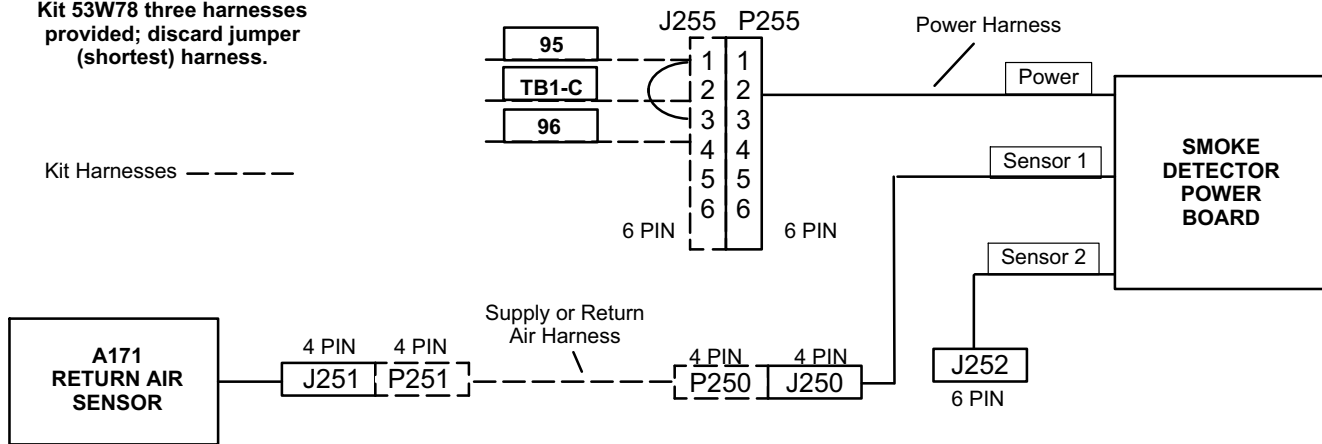
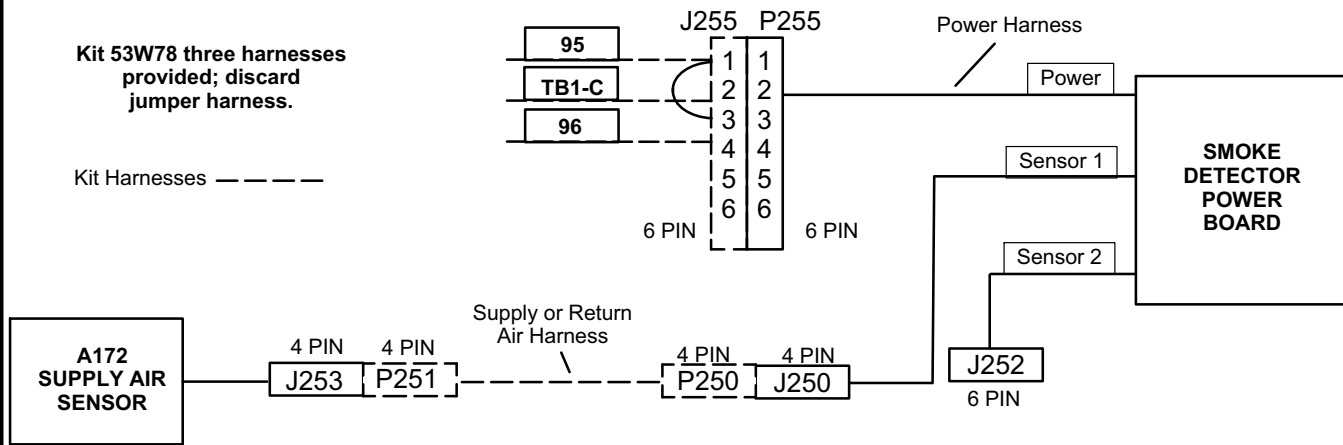
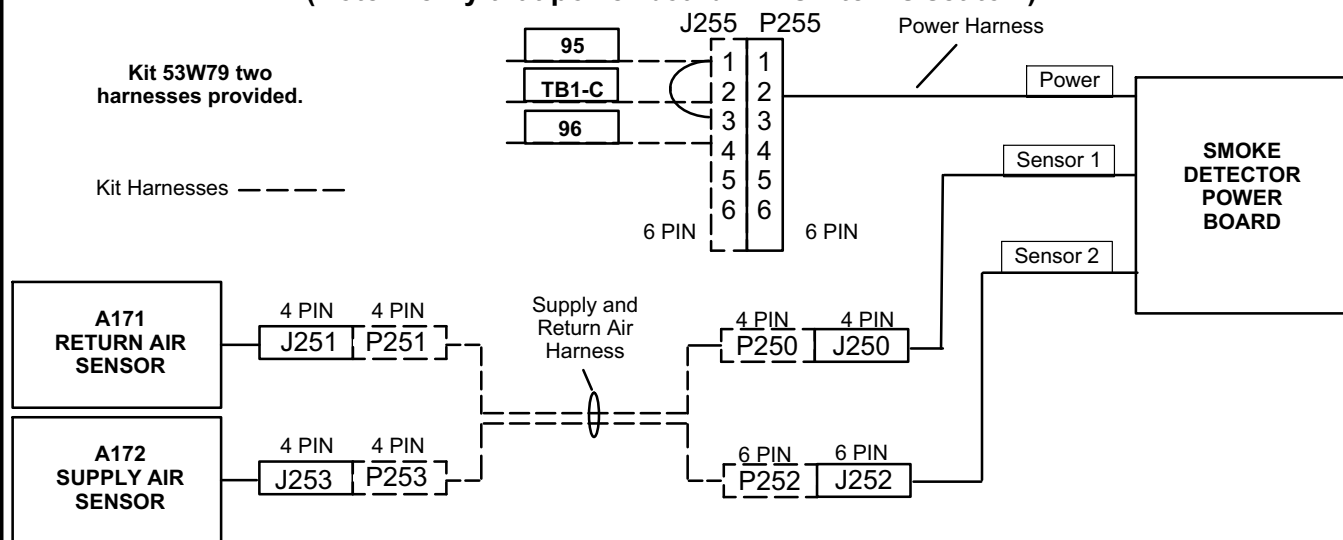
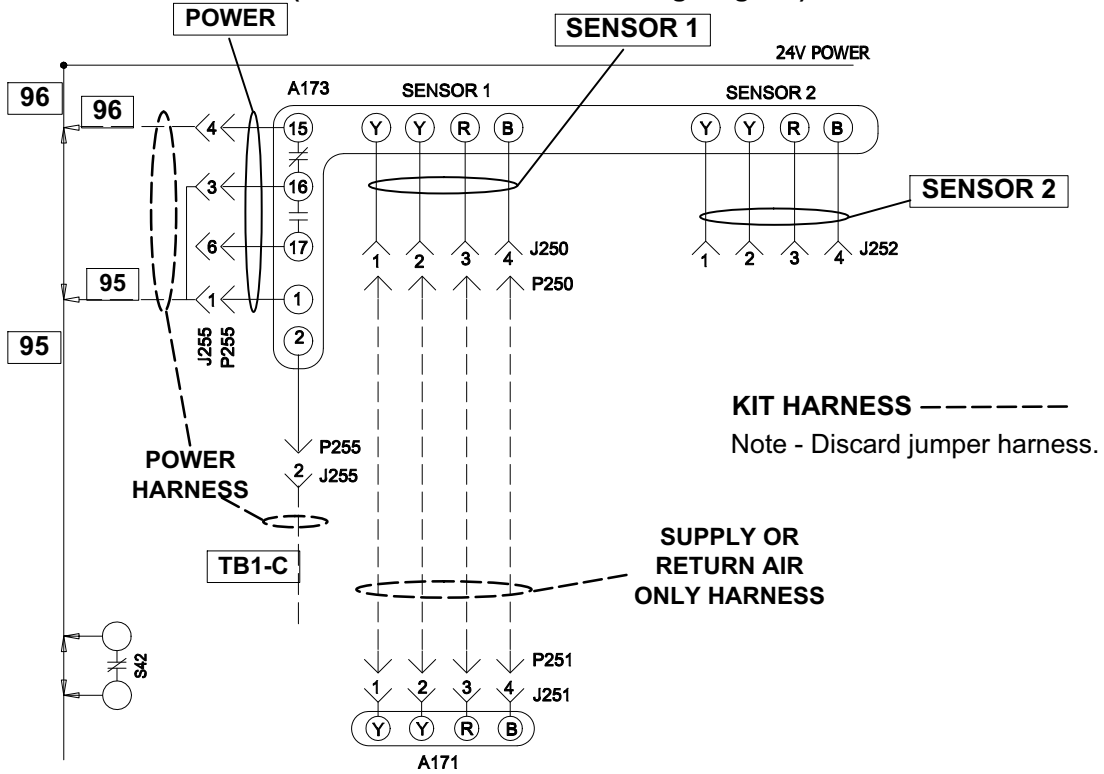

FIGURE 9
FIGURE 10
FIGURE 11
FIGURE 12
- 4 - Make jack/plug connections as shown in figure 9 when installing return air smoke detector only, figure 10 when installing supply air smoke detector only, and figure 11 when installing both supply and return air smoke detectors. Refer to respective wiring diagrams in figure 12, 13 and 14.